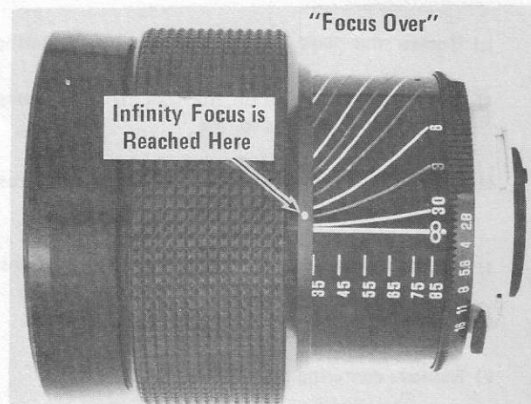

FIG. 7-2
**FOCUS OVER** — When rotating control ring to focus at infinity, infinity focus is reached before the focus index dot reaches the infinity index line. Fig. 7-2.